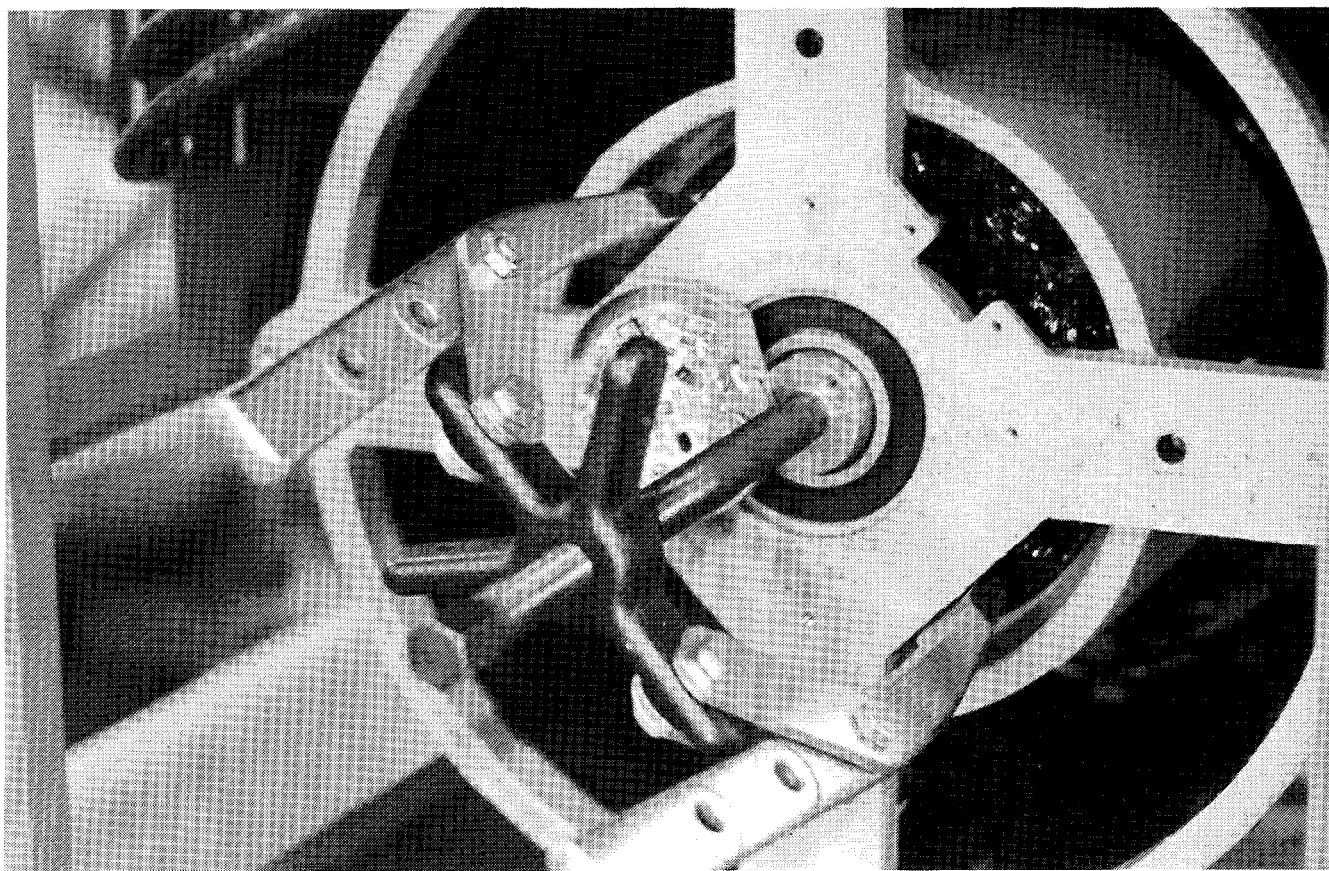

Figure 4-18. Removing End Bracket
5. Use a pulling tool to remove end bracket. See Figure 4-18.